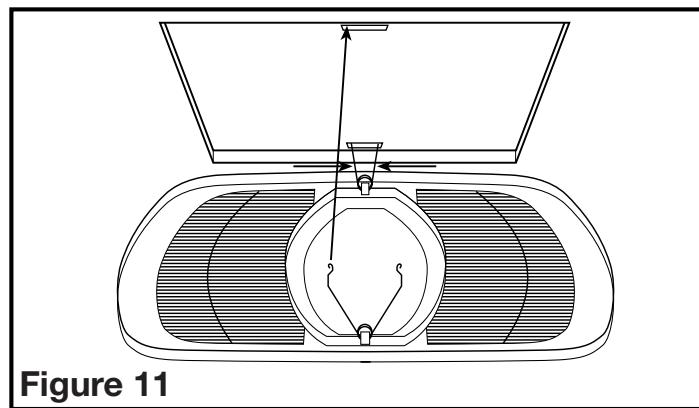

Figure 11
- Install the grill by squeezing the two ends of the springs together and installing them up into the slots on the fan's housing. Push the grill up into position (Figure 11).
- Changing the Lamp:** Disconnect power to the unit. Remove grill by pulling downward on grill and squeezing grill springs together to release from housing (Figure 11).